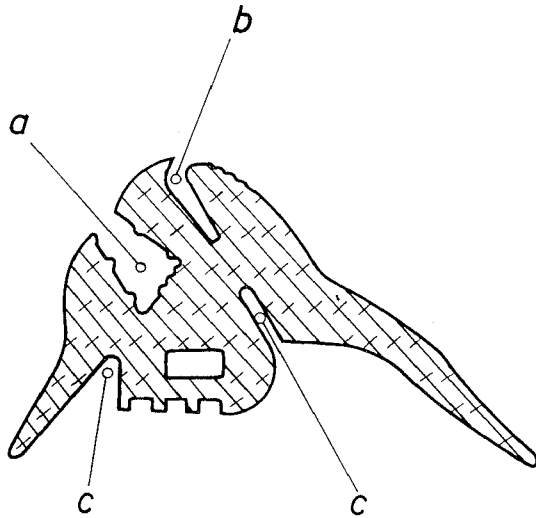

Fig. 82
12. Place a cord in the slot ("b" Fig. 82) and insert trim strip. Pull out cord downward and press trim strip in place.